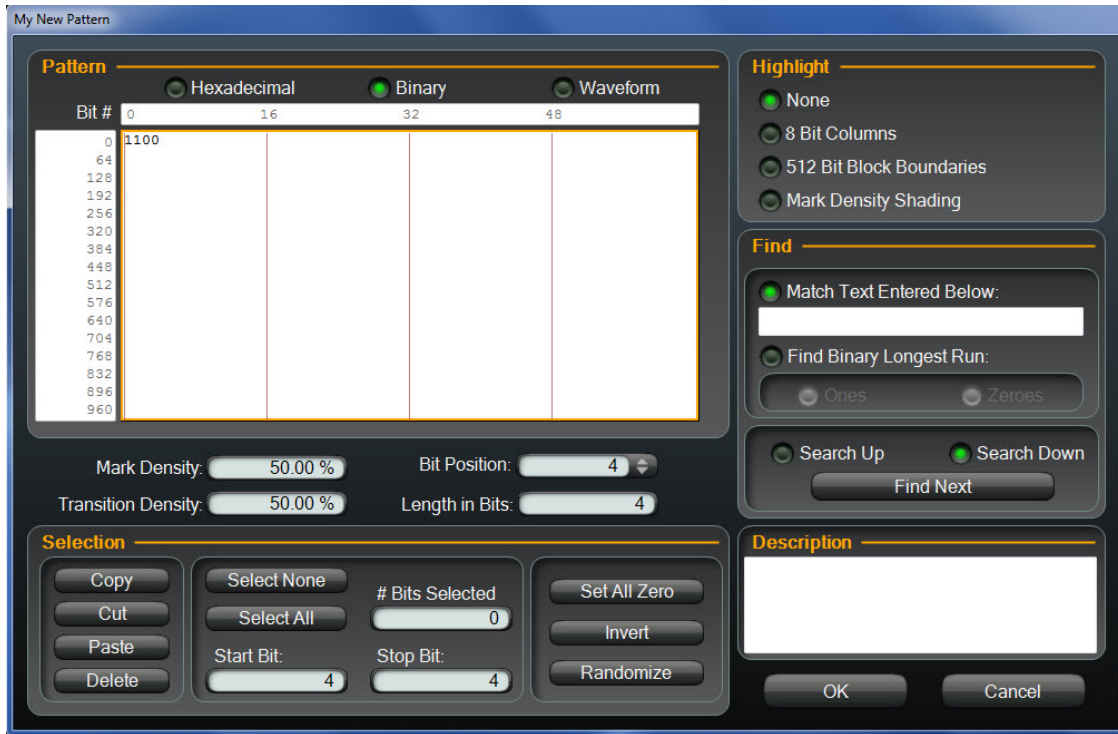

Figure 67. Define pattern
4. Select **Hexadecimal** to enter the pattern as a hexadecimal number, select **Binary** to enter the pattern as a binary number, or select **Waveform** to enter the pattern as a waveform. Figure 67 shows a pattern being entered with binary selected and with the highlight function turned off (none).